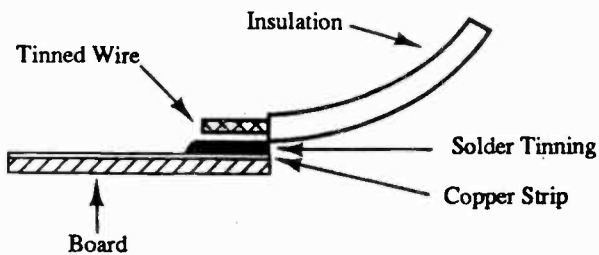

Fig. 8.5 Wire ready for soldering
- (ii) Hold the tinned part of the wire exactly parallel with the strip (Figure 8.5). It is very important that the wire is not at even the slightest angle as there is then the possibility of overlapping to the next track.